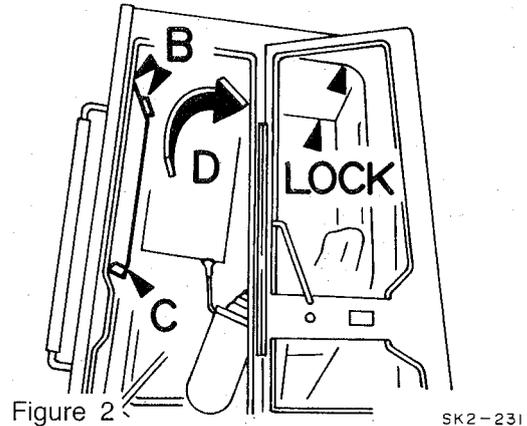

Figure 2
2. Using the handle "C", lift the front window in the direction indicated by arrow "D" and slide it to the back. (Refer to Figure 2.)